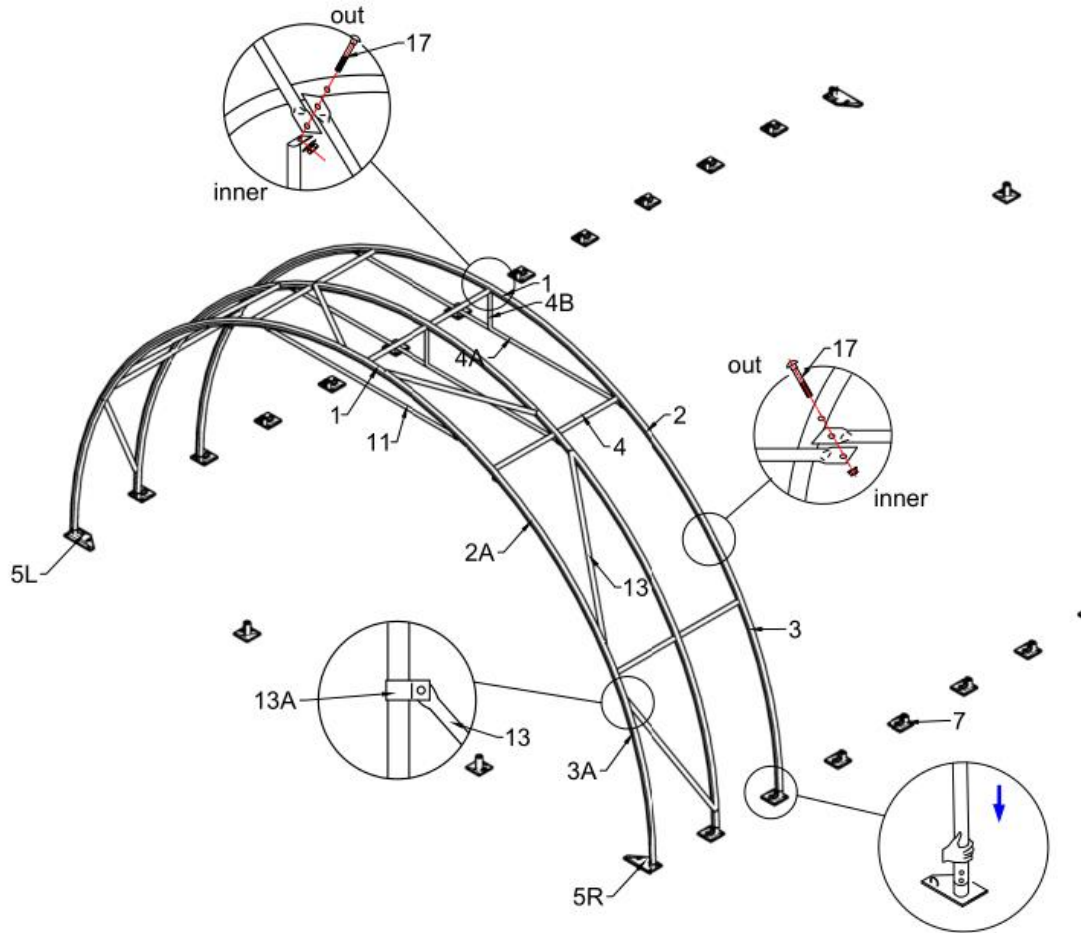

Figure 4
- Connect the Diagonal Bracing Tube (No.13) with clip (No.13A) between the Lower Bent Tubes as figure 4 and 5.